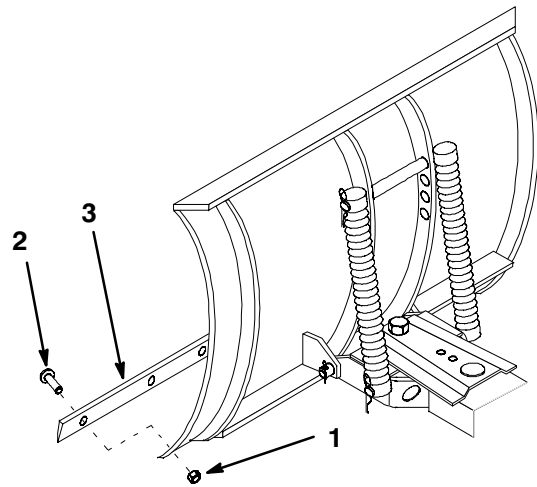

Figure 23
3. Remove the lock nuts and carriage bolts securing the scraper (Fig. 23).
4. Reverse the scraper blade to replace a worn edge and install it with the previously removed hardware (Fig. 23).